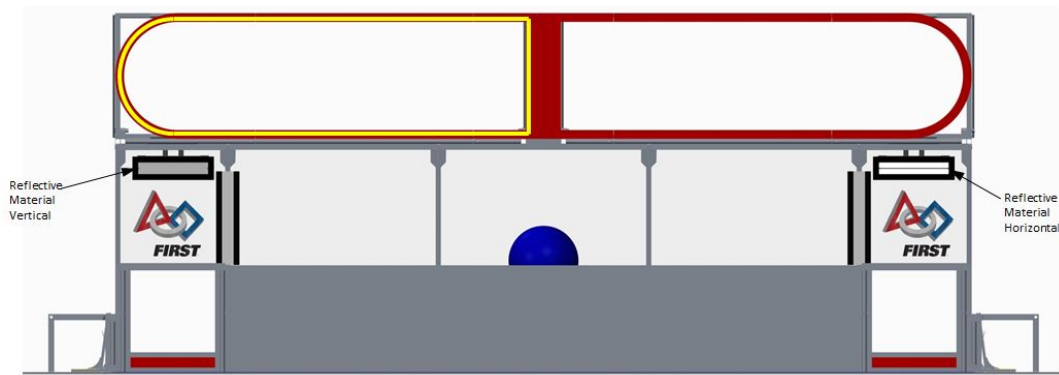

Figure 2-9: The VISION TARGETS
There are four (4) VISION TARGETS on each end of the FIELD: two (2) dynamic VISION TARGETS and two (2) static VISION TARGETS. There is one (1) dynamic VISION TARGET located above each LOW GOAL. Each dynamic VISION TARGET is located behind the polycarbonate panel on the ALLIANCE WALL. The dynamic VISION TARGET is horizontal and begins 5 ft. 8 in. above the FIELD carpet, is centered over the LOW GOAL, and consists of a panel with one (1) 4 in. wide, 1 ft. 11 ½ in. long strip of retro-reflective material (3M 8830 Silver Marking Film) adhered horizontally along the length of the panel with a 2 in. black ABS plastic border surrounding the retro-reflective material. The dynamic VISION TARGET is actuated to show the retro-reflective material when its corresponding HIGH and LOW GOAL are HOT. It will rotate to hide the retro-reflective material (pointing it upwards) when its corresponding HIGH and LOW GOAL are not HOT. Both of these conditions are shown in Figure 2-9.